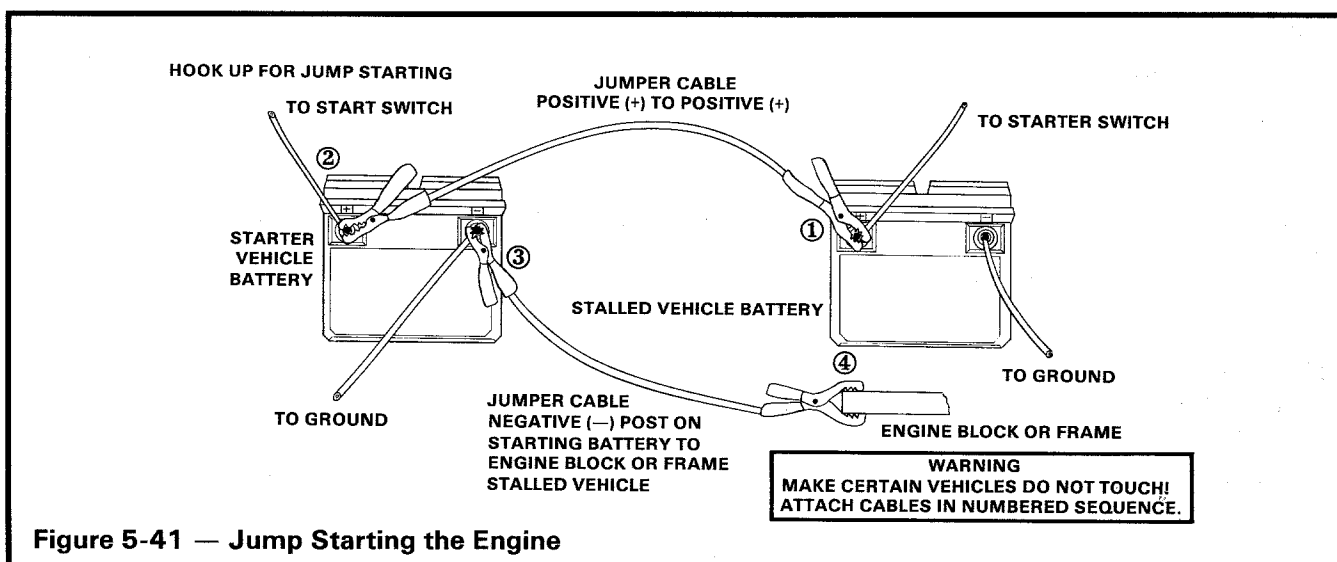

Figure 5-41 — Jump Starting the Engine
3. Connect each end of one cable to positive (+) terminals of each battery (**Figure 5-41**).